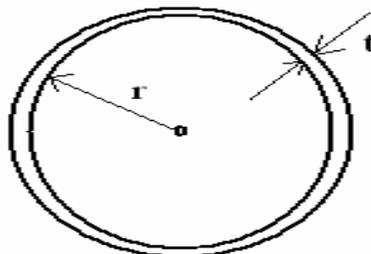

Figure 3 (a)
23. (a). Compare the maximum shear stress in a circular tube (Refer fig 3(a)) as calculated from the equation $\tau = \frac{T}{2tA}$ for a thin – walled tube with the stress calculated from the torsion formula. Justify your answer. (14)